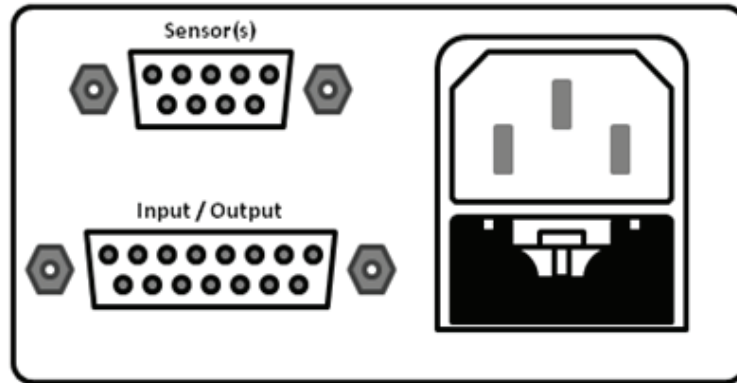

Figure 2 Terranova® 924A back panel
The Terranova® 924A has a female 9-pin D-sub connection located on the back of the control unit labeled SENSOR(S) to connect the pressure gauge cable (See Figure 2). User will require the Duniway gauge cable **TC-924A-CBL-10** to connect the Varian Type 531 and equivalent gauges to the control unit.